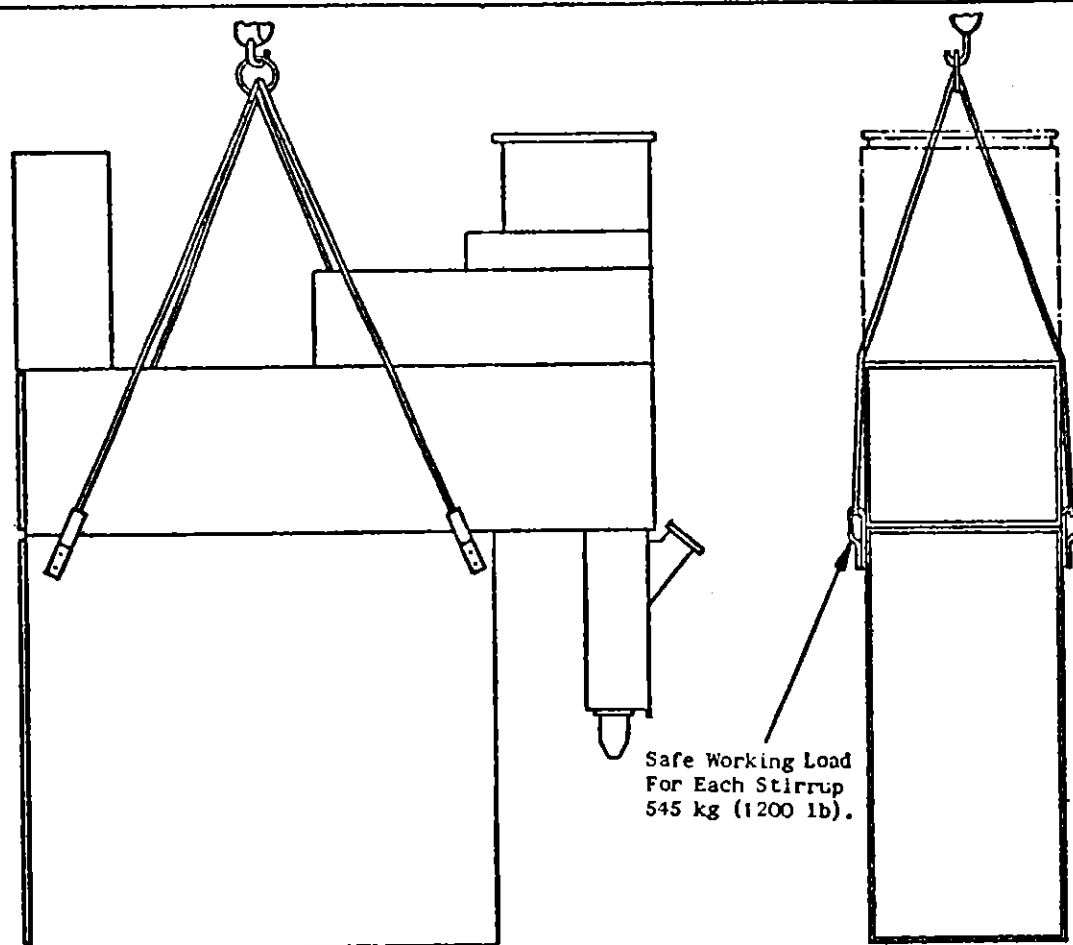

Fig. 4.1. Method of Lifting Unit.
- (ii) All transit stirrups are securely bolted to the equipment - see Figure 4.1.